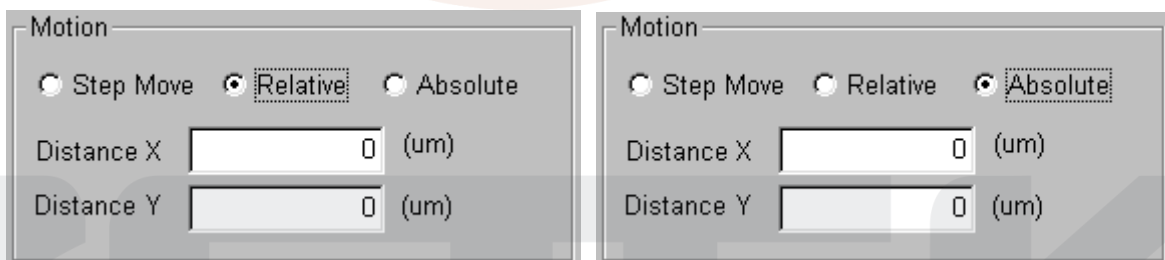

Fig. 15 Relative and Absolute motion settings
2. Relative : Relative coordinate move, Fig. 15(left) is shown. Please click () or () to move.
3. Absolute : Absolute coordinate move, Fig. 15(right) is shown. Please click () to move. Before using this function, make sure homing is performed.